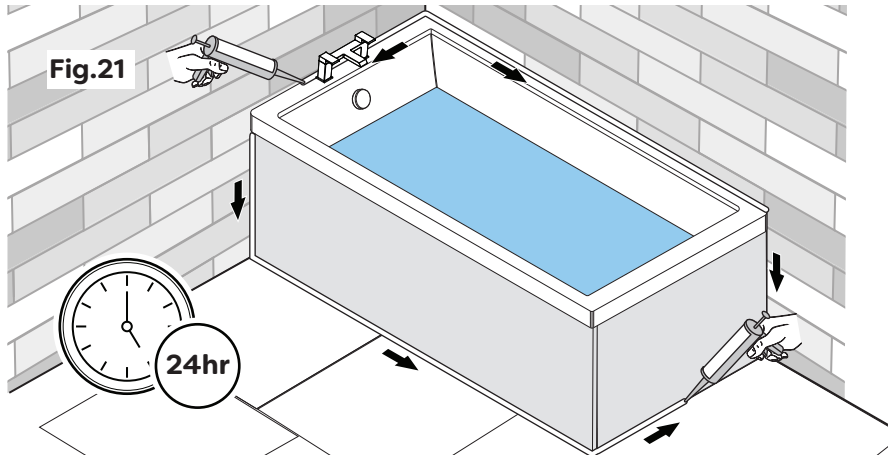

Fig.21
- Clean the area of any dust and debris. Fill the bath with water to correctly apply the sealant while the bath is filled with weight. Pipe a fine bead of good quality silicone sealant across the back of the bath to the wall. As shown in Fig 21.